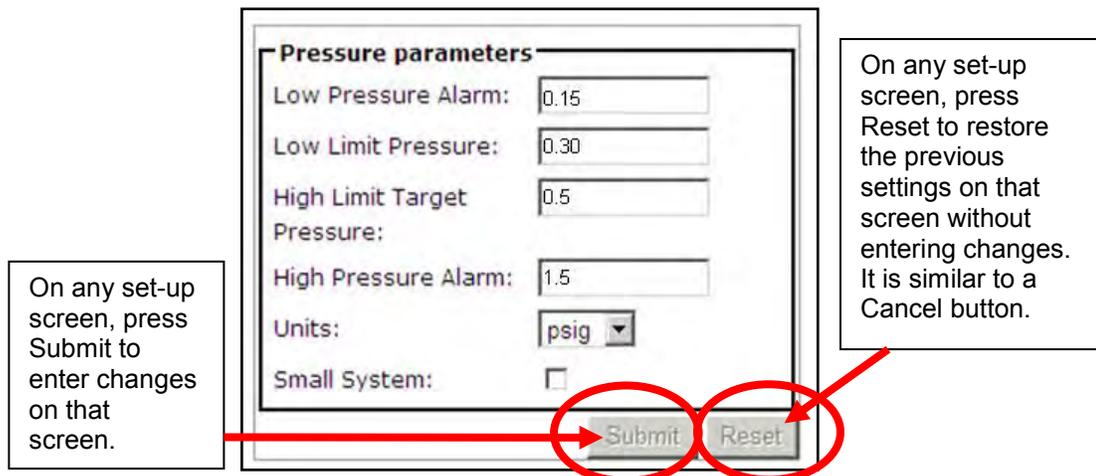

Figure 23. THE PRESSURE PARAMETERS SCREEN SHOWING THE DEFAULT SETTINGS.
1. Connect to the dehydrator. Go to the Configurations page. Locate the Pressure Parameters screen. Refer to Figure 23.